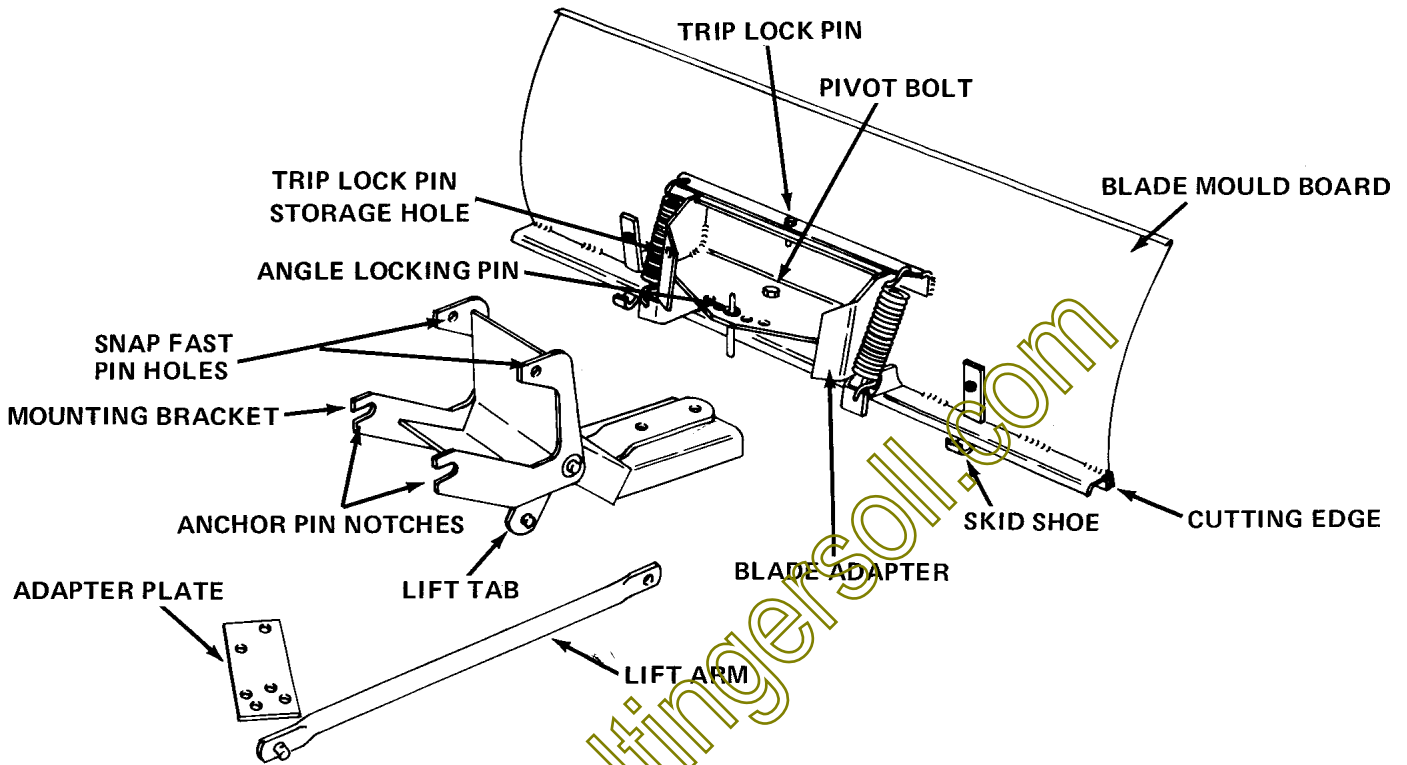

FIGURE 2 L50, K50, J50, UB44 Utility Blade - Disassembled
4. **TRIP LOCK PIN: (See Figures 2 and 4)**